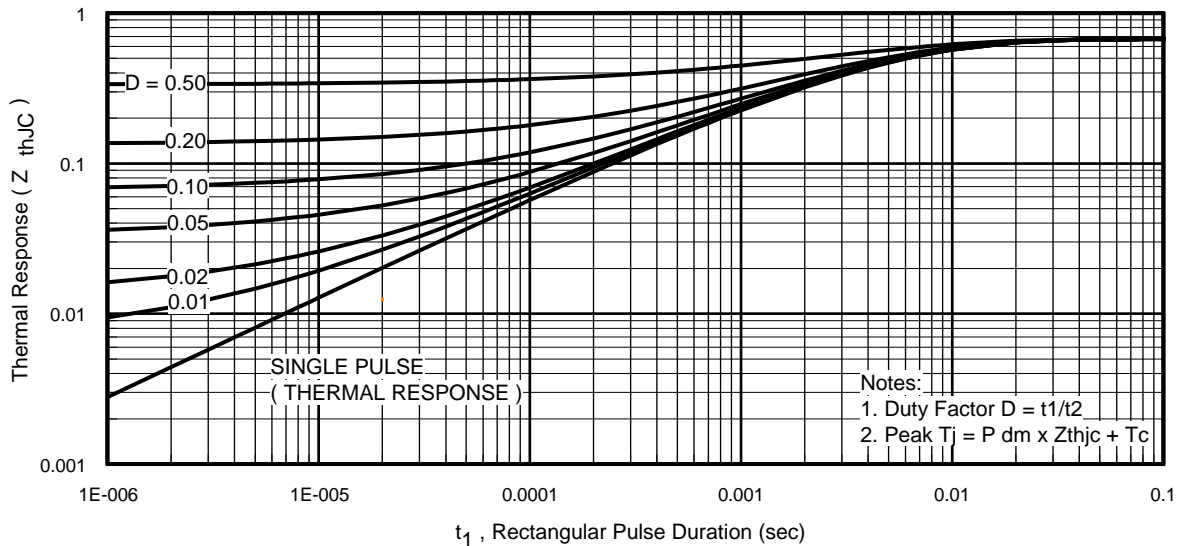

Fig 11. Maximum Effective Transient Thermal Impedance, Junction-to-Case
- ① Repetitive rating; pulse width limited by max. junction temperature. (See fig. 11).
- ② Limited by T_{Jmax} ; starting $T_J = 25^\circ\text{C}$, $L = 0.11mH$
$Z_{thJC}(D, t_{av})$ = Transient thermal resistance, see figure 11)